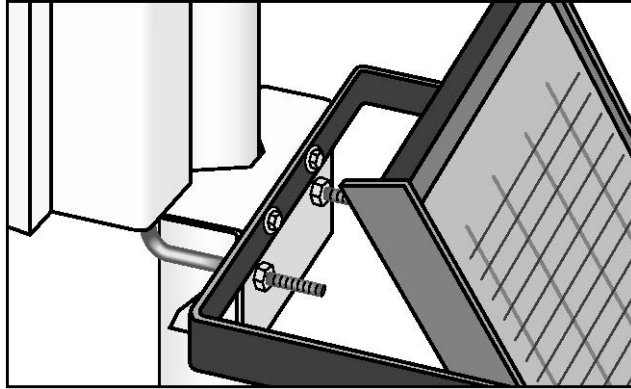

FIGURE 3-4. Solar Panel Mounting
- a) Mount the solar panel to the tower using the mounting brackets as shown in FIGURE 3-4. Mount the solar panel to the tower so it faces south (northern hemisphere). Position it as high off the ground as practical, ensuring it cannot interfere with air flow or sunlight around the sensors. The solar panel should be oriented to receive maximum insolation over the course of the year. Suggested tilt angles (referenced to the horizontal plane) are listed below.